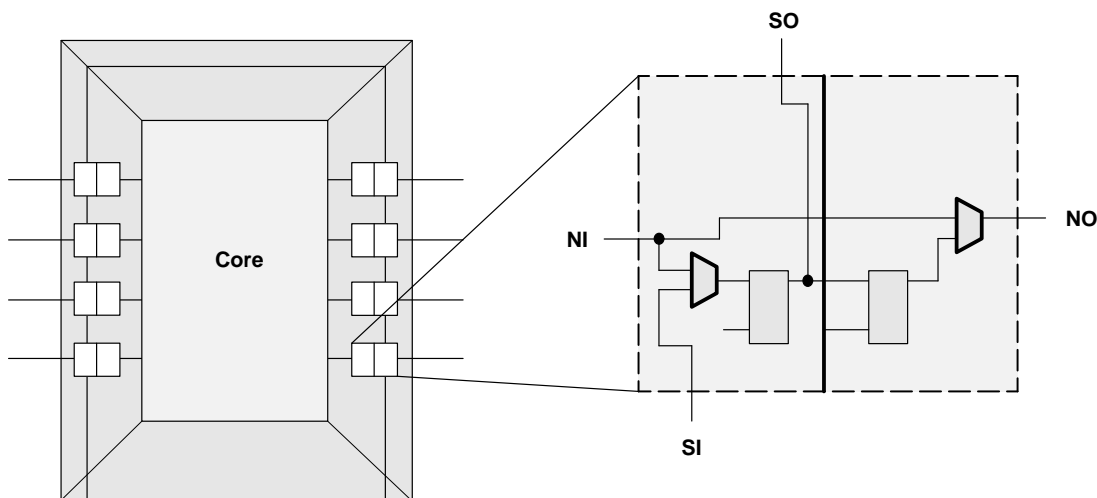

Figure 3. Boundary-Scan Cell
Boundary scan involves placing test points (boundary-scan cells) within each digital I/O of a device. The boundary-scan cell enables the I/O to observe normal data flow through the pin, or the cell can be used to control the state of a pin by providing source data via the serial input (SI). Figure 3 provides a view of the typical boundary-scan cell.